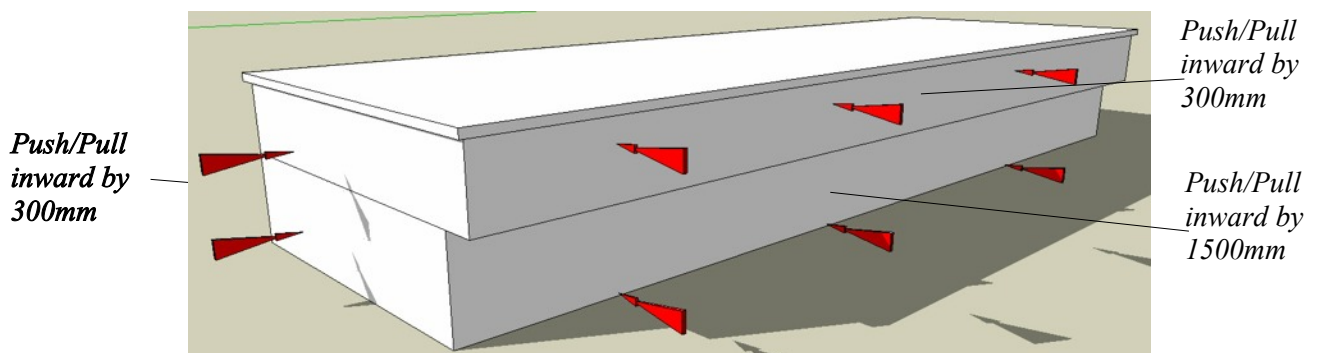

Figure 42. Side and front walls moved inward with Push/Pull
- Use **Push/Pull** to move the left hand walls and front upper wall inward by 300mm and the lower front wall inward by 1500 as shown in Figure 42.